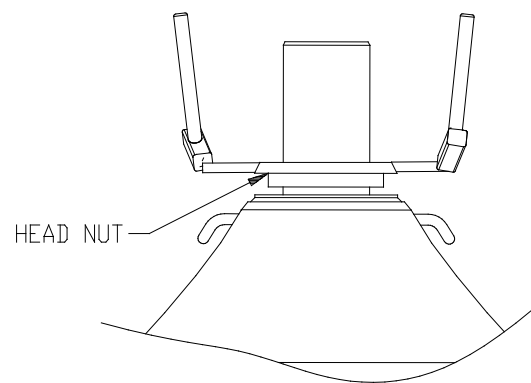

Fig. 6.3.9
- While striking the striker lugs with large hammers, loosen and remove the head nut. The head nut has a right hand thread. (Fig. 6.3.9)